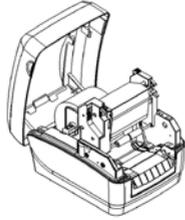

Figure 2.3.2
- 4) Push the ribbon thumb wheel to tighten the ribbon (refer to figure 2.3.2 for installed paper roll and ribbon);